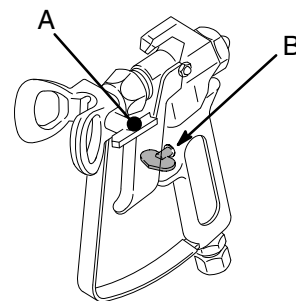

Fig. 5
2. If the spray tip clogs, release the gun trigger, lock the gun trigger safety, and rotate the handle (A) of the RAC IV by 180°. See Fig. 5, which shows the handle in the spraying position and the gun trigger safety (B) in the locked position.